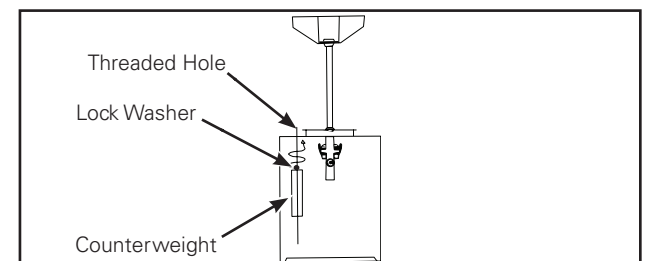

Figure 2.
6. Place lock washer over threaded end of weight. Screw the weight into the top of the housing. (Figure 2.)